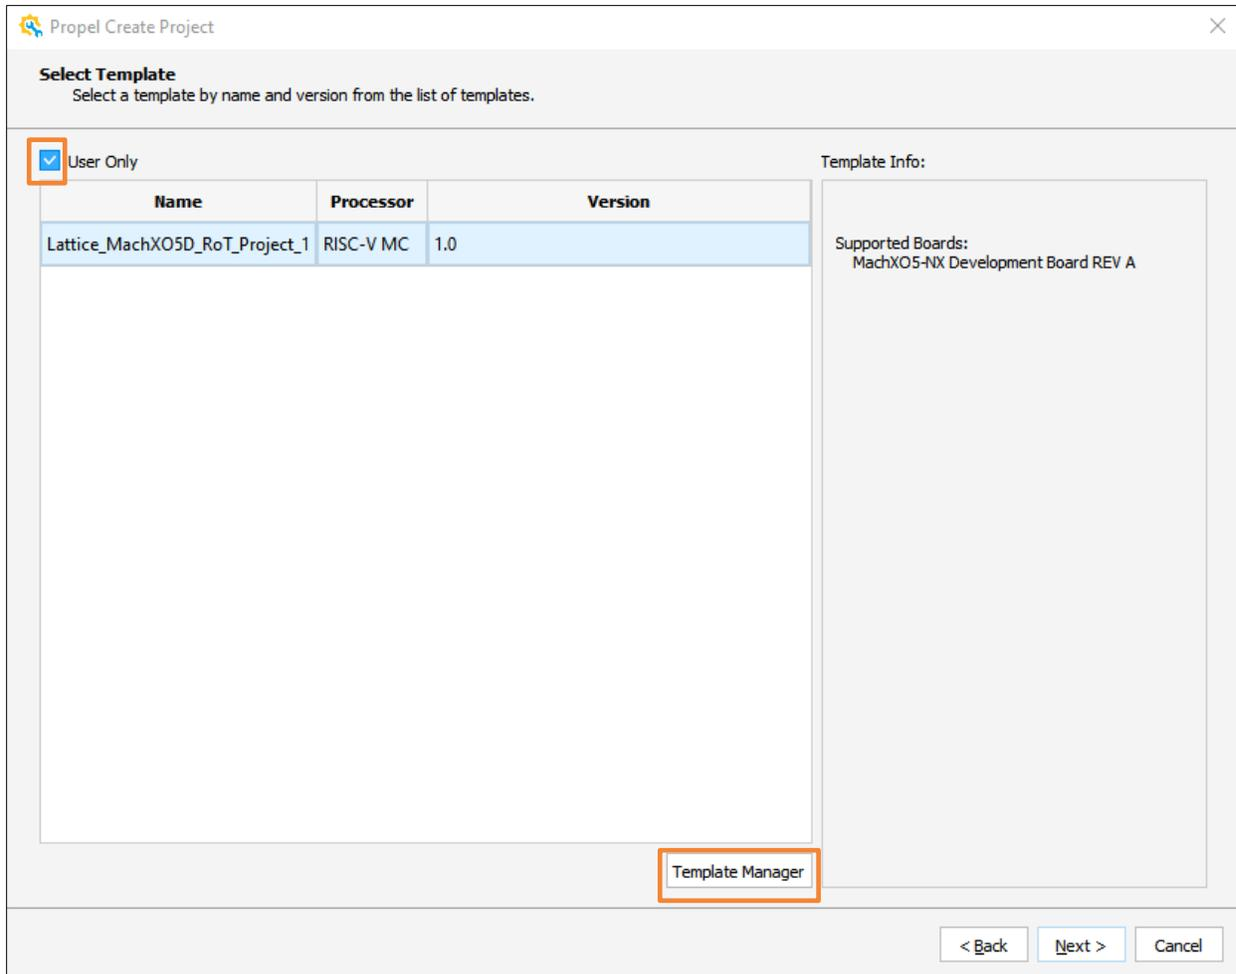

Figure 2.6. New SoC Project – Select Custom Template
5. (Optional) Click **User Only** to see user custom template (Figure 2.6). Refer to the Define Custom Template section for how to use **Template Manager**.